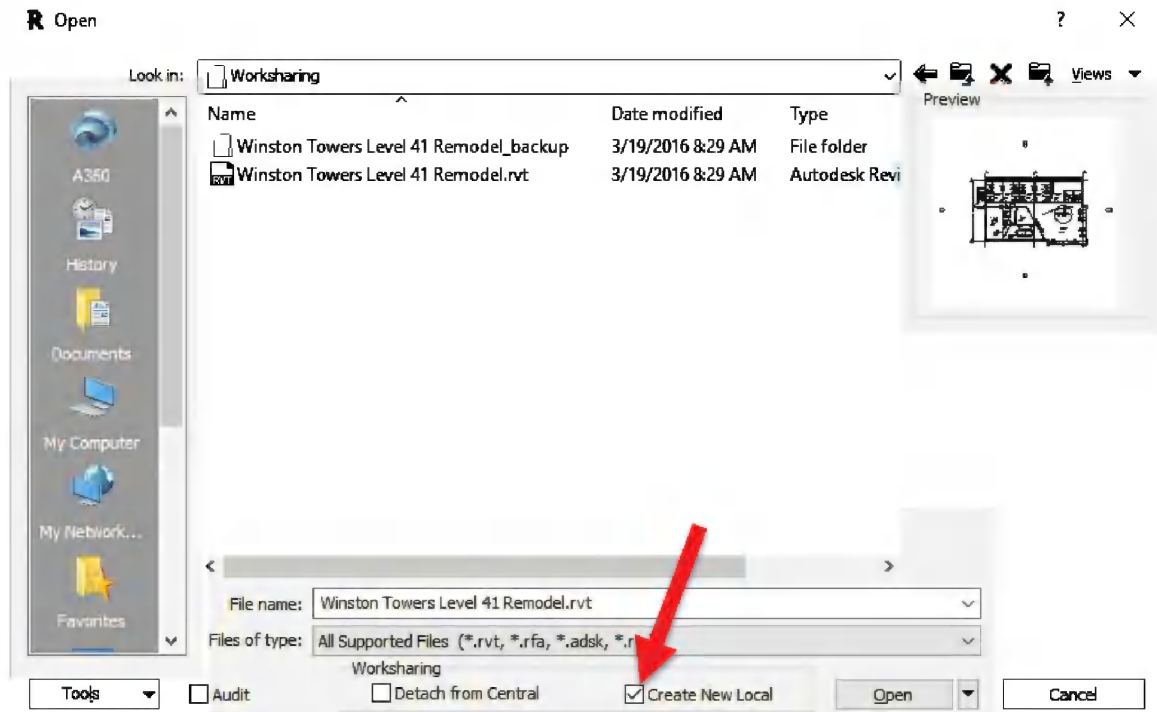

FIGURE 16-2.6 Create New Local check box; Revit Open dialog
- Ensure **Create New Local** is checked (Figure 16-2.6)